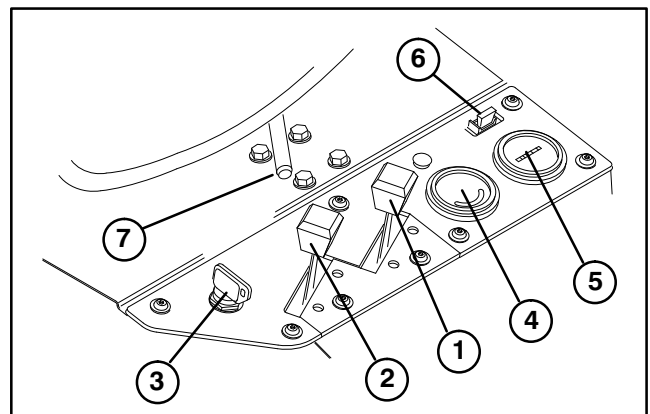

**Figure 18**
**TRACTION AND STOPPING PEDAL** (Fig. 17) –Traction pedal has three functions; one to make the machine move forward, two, to move it backward and three, to stop machine. Depress top of pedal to move forward and bottom of pedal to move backward or to assist in stopping when moving forward. Also, allow pedal to move to neutral position to stop machine. For operator comfort, do not rest heel of foot on reverse, when operating forward (Fig. 18).